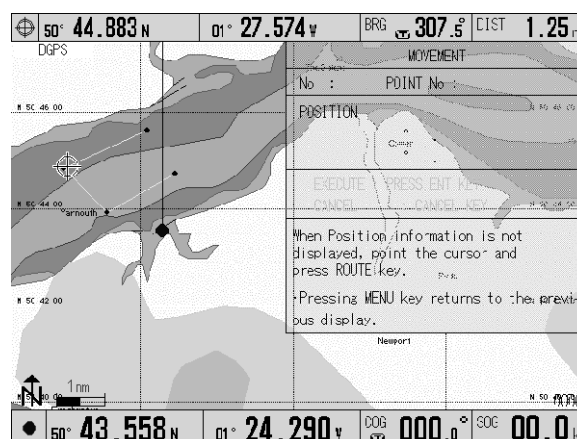
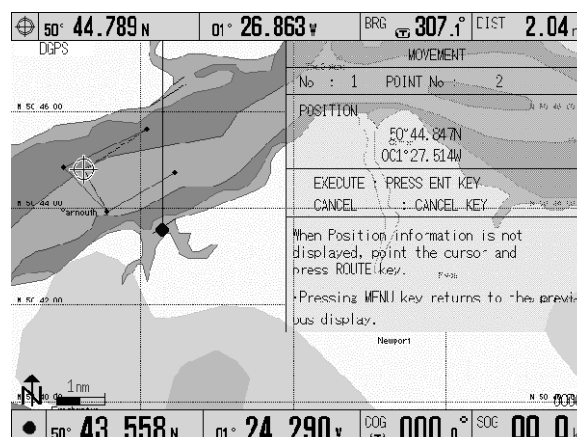

Figure 6.38 MOVEMENT menu (1)
Figure 6.39a MOVEMENT menu (2)
- (5) Highlight MOVEMENT and press the Joystick to the right. The MOVEMENT menu will appear. (Figure 6.38)
- (6) Move the Joystick to place the cross cursor on to a node of a graphic drawing.
- (7) Press the ROUTE key to display the selected node data. (Figure 6.39a)